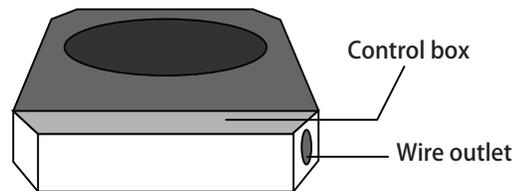

**Fig. 8.1**
2. Remove the electric cover of the outdoor unit. If there is no cover on the outdoor unit, disassemble the bolts from the maintenance board and remove the protection board. (See Fig. 8.1)